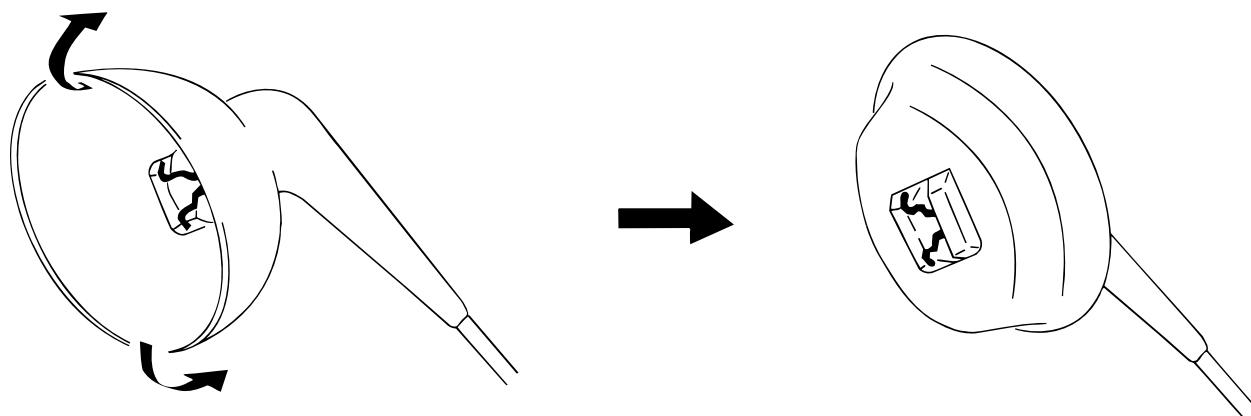

Figure 3-4
(4) Turn over the rubber cap symmetrically on the left and right. (See Figure 3-4)